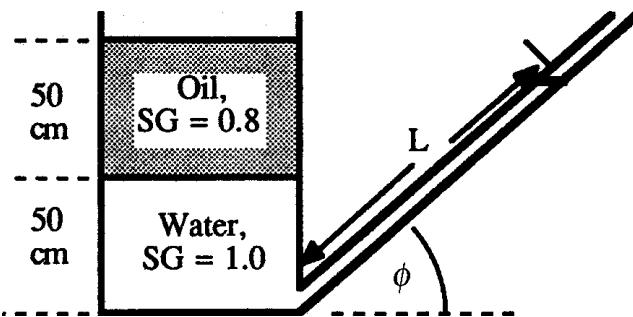

Fig. P2.36
**2.36** In Fig. P2.36 both the tank and the slanted tube are open to the atmosphere. If  $L = 2.13 \text{ m}$ , what is the angle of tilt  $\phi$  of the tube?